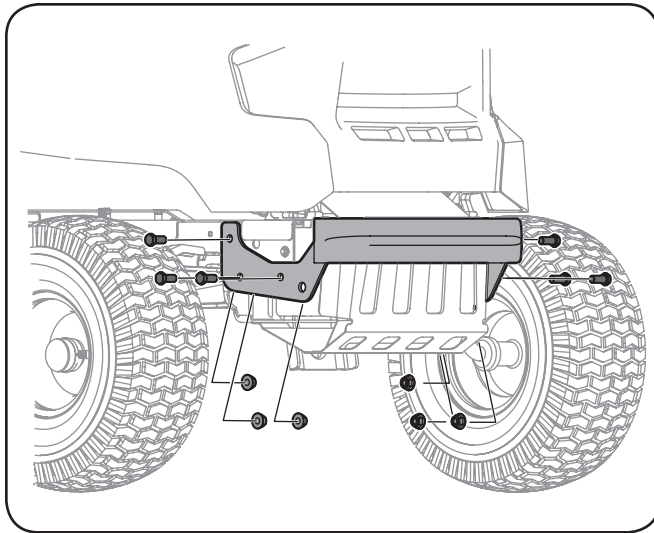

Figure 3-1
1. Using two  $\frac{3}{16}$ " wrenches, secure the bumper to the tractor frame with six hex screws and flange lock nuts. See Figure 3-1.